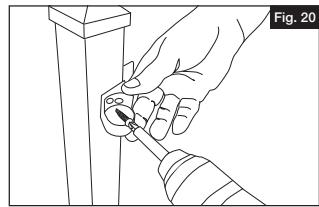

Fig. 20
- b. Test fit your rail panels and cut to length for your specific installation. Follow the general methods described above to complete your angle installation (Figs. 20 & 21).